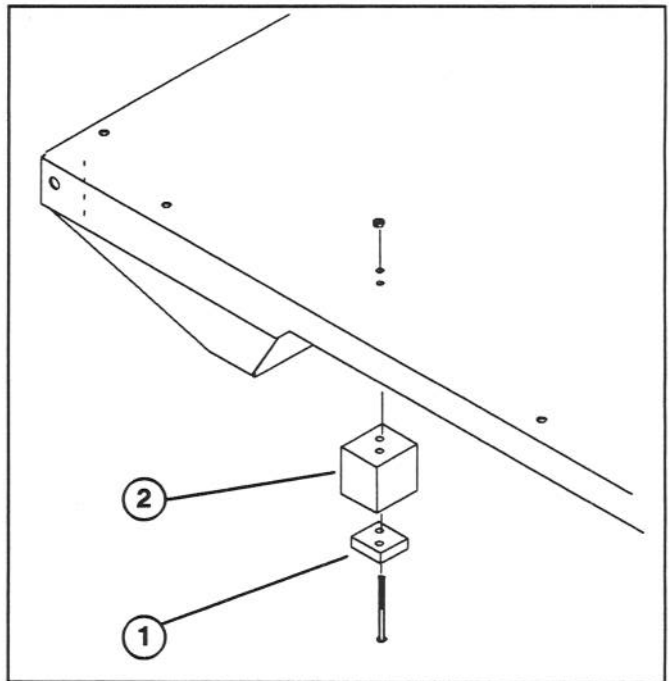

Figure 7
6. Remount the spacer blocks and new box spacers to underside of bed with new longer machine screws and locknuts (Fig. 7).